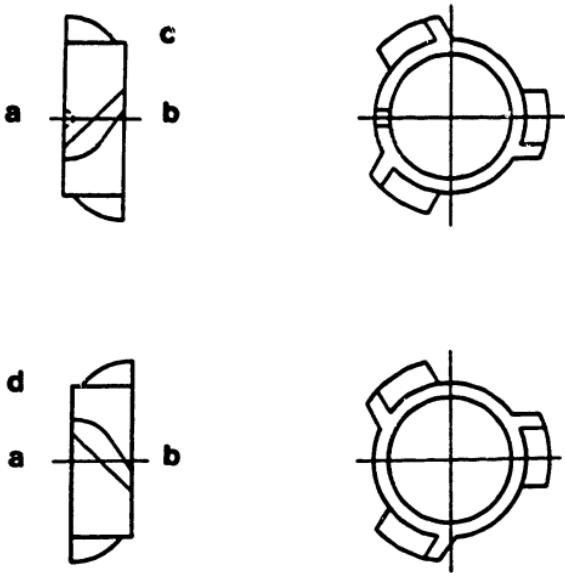

**Fig. 47 Attaching the impeller**
1. After mounting the governor housing, attach the impeller to the camshaft with the flat side of the blades facing the governor. (Fig. 47)